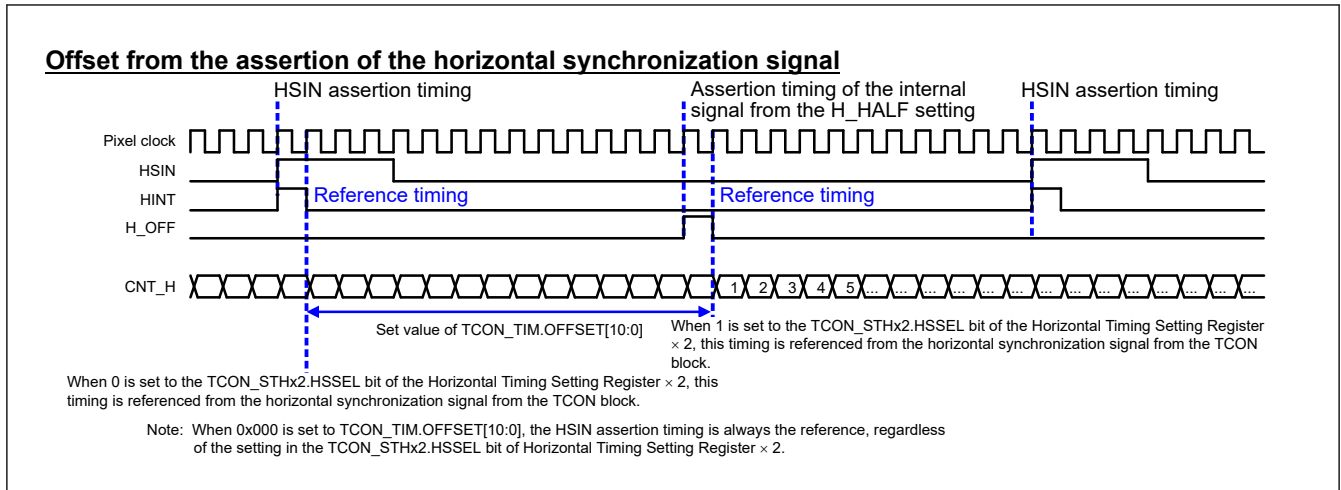

Figure 64.15 Reference timing in the TCON for horizontal synchronization signal generation
The OFFSET[10:0] bits specify the reference timing to be used when the horizontal synchronization signal is generated in the TCON. Set the offset from the assertion of the internal horizontal synchronization signal (HS) in terms of pixels. Figure 64.15 shows the horizontal synchronization signal generation reference timing in the TCON.